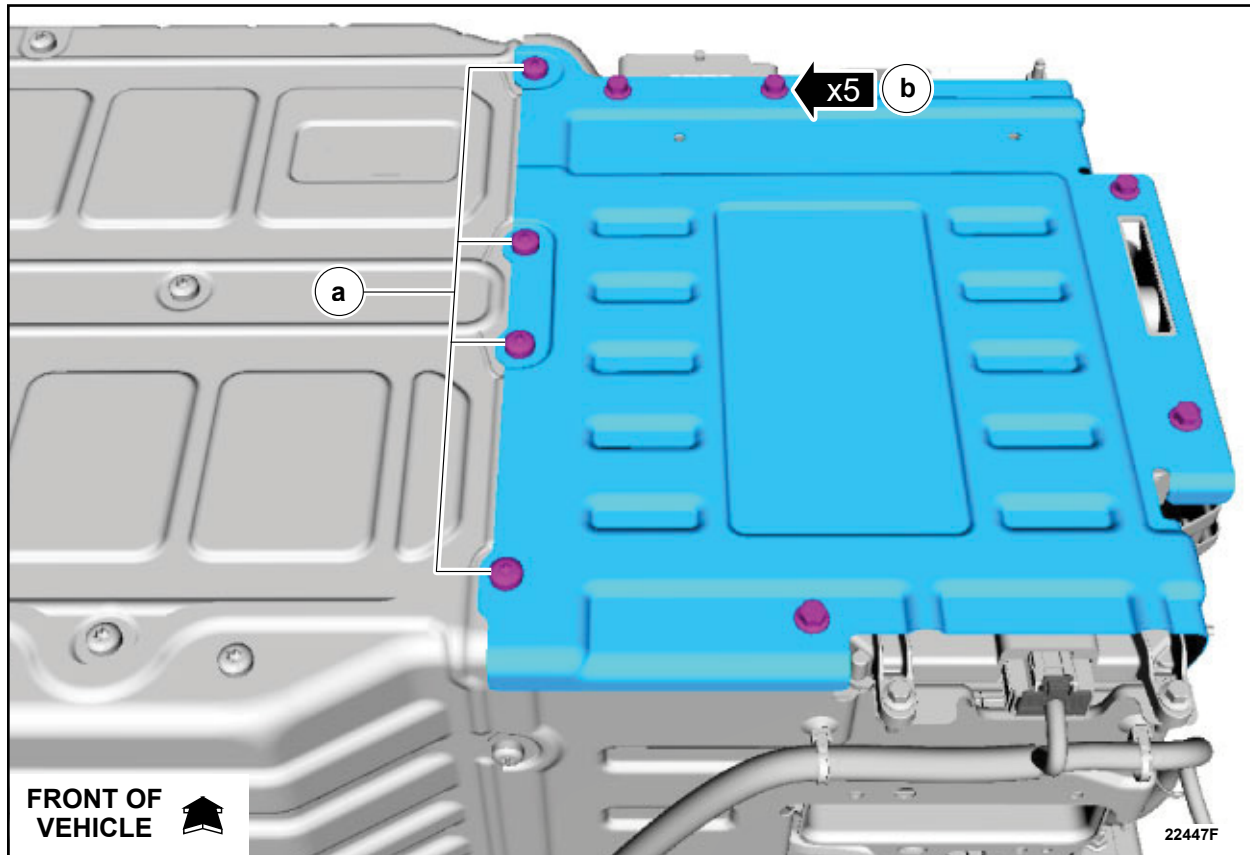

FIGURE 6
9. Remove the retainers and the high voltage battery cover. See Figure 6.